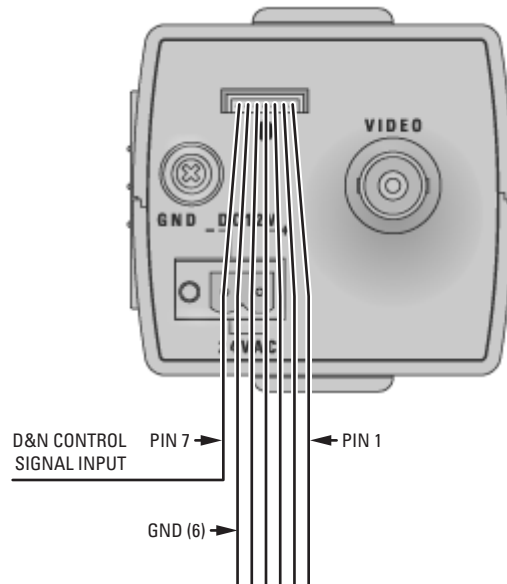

Figure 6. Day/Night Filter Control Configuration
To connect an external day/night filter switch to the camera, refer to Figure 6, and then complete the following steps:
2. If necessary, use a small Phillips screwdriver to remove the connector cover from the rear panel (refer to Figure 6).